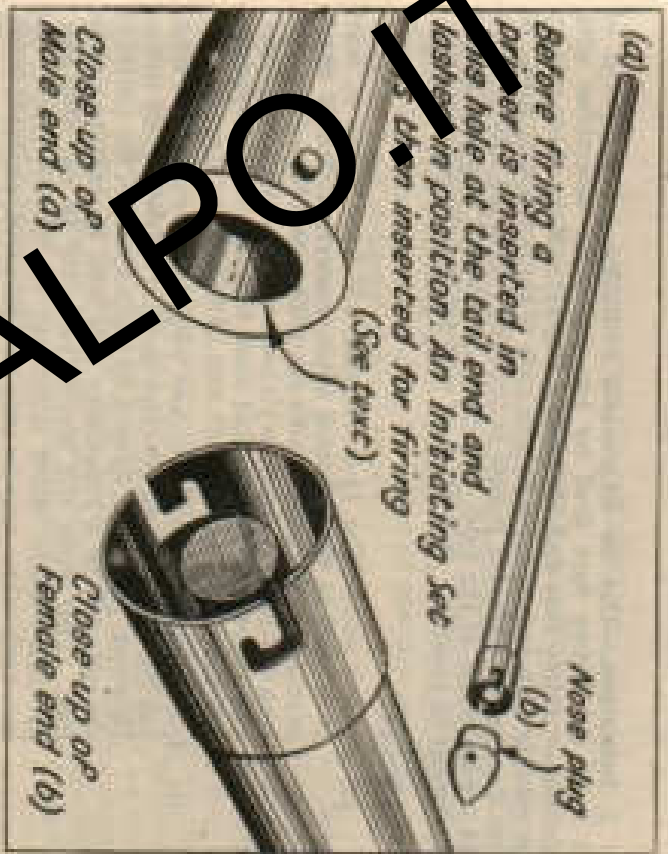
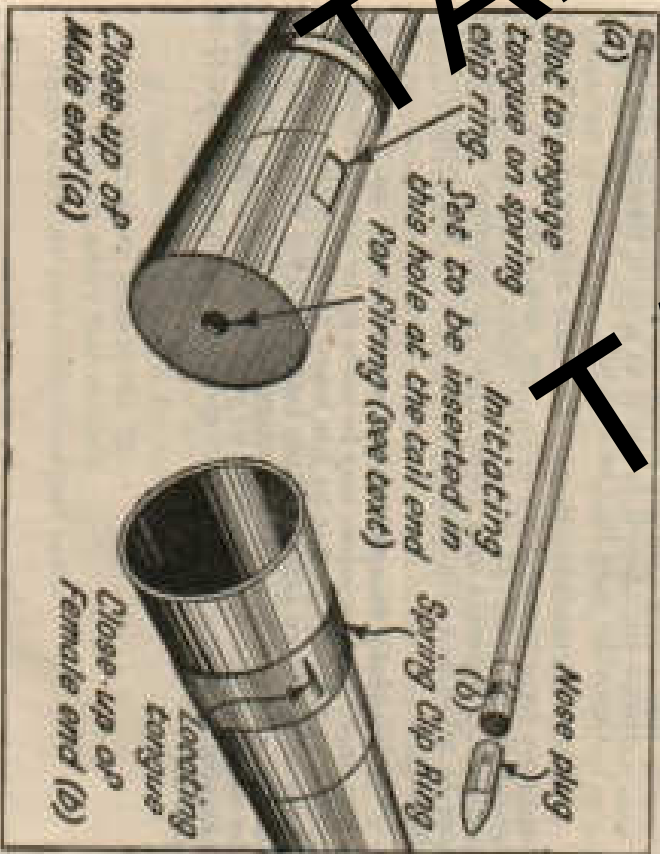

Fig. 18. 2-in. Bangalore torpedoes, Mk. 1
Fig. 19. 14 in. Bangalore torpedoes, Mk. 1
1. Description (See Figs 18 and 19) This is a prepared charge for attacking with obstacles. The torpedo now issued to infantry promotion platoons at the Torpedo Bangalore 14-in. Mk 1 (see Fig 19). It consists of a 14-in steel tube filled with HFF and is supplied in 6-ft lengths weighing 14 lb each. Each tube has a male and female end with single spring clip joint so that it can be made up into the length required. A detachable bullet-shaped nose fits on to the front of the torpedo to assist movement along the ground. The maximum length which can be conveniently pushed by hand is 100 ft.
The 2-in torpedo formerly issued weighed 25 lb per ft length. Owing to its weight it has now been replaced by the 14-in. The 2-in torpedoes may still be met in training and is illustrated in Fig 18.